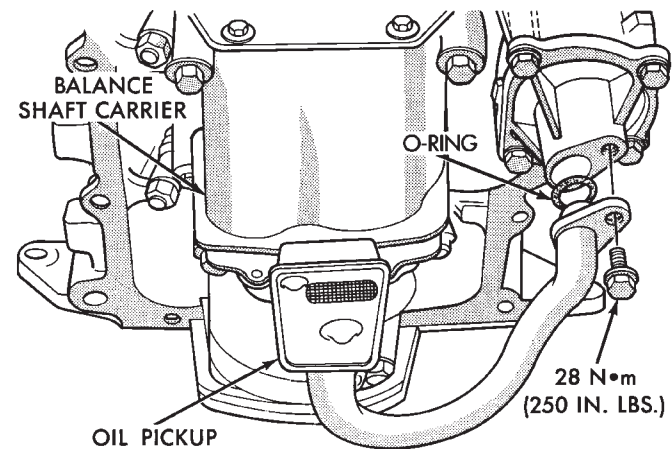

Fig. 4 Oil Pick-Up
A formed steel oil pan provides lower engine protection as well as serving as the engine oil reservoir (Fig. 2). Pan side flanges to block are sealed with gaskets. The 2.5L engine pickup is unsupported and the lower end has a box type strainer (Fig. 4).
- (1) Remove screw on pump cover holding oil pick-up tube to oil pump (Fig. 4).
- (2) Remove oil pick-up tube. **When reinstalling make sure to use a new O-Ring on pickup tube.**